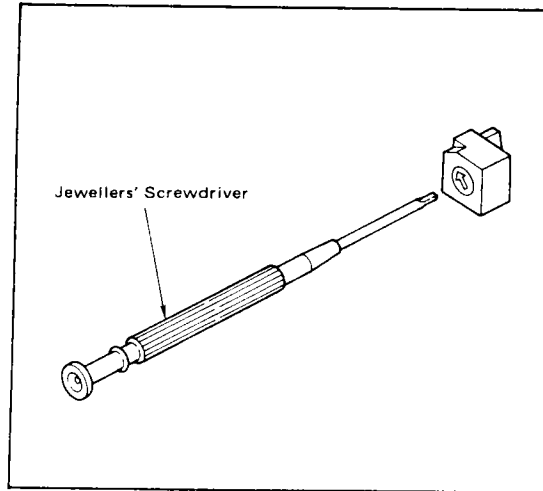

Figure 6-11.
- (3) Turn the POWER switch ON.
- (4) With the input applied, adjust the zero and span adjustments using a jewellers' screwdriver (see Figure 6-11).